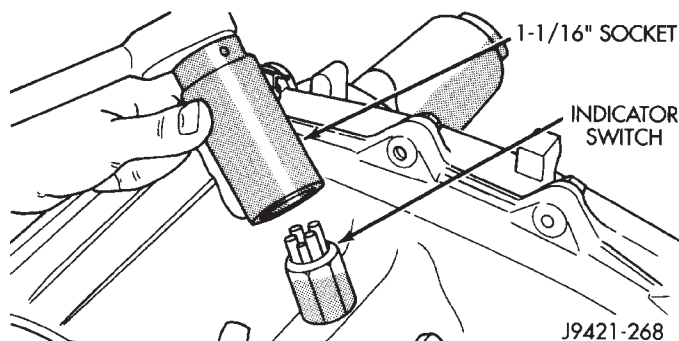

Fig. 30 Vacuum/Indicator Switch Removal
- (1) Remove vacuum/indicator switch (Fig. 30).